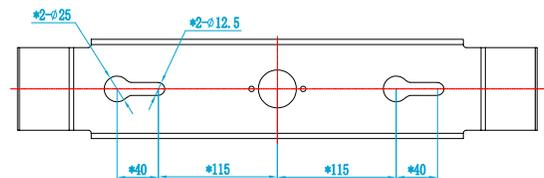

Fig. 30
3. Mount multi-mount bracket to surface using necessary hardware (not provided). Refer to hole mounting pattern (Fig. 30).